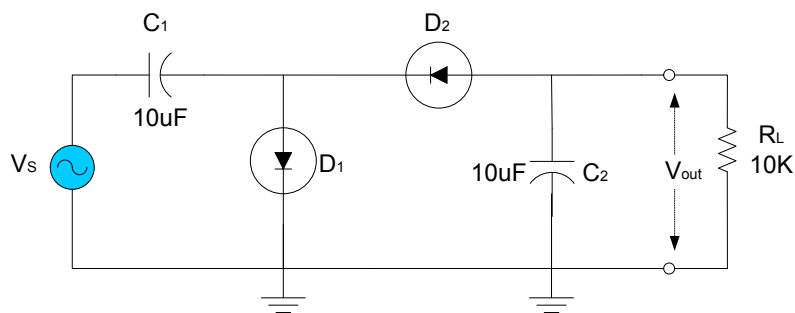

Figure 5
use output of the clamped capacitor as an input to the present circuit as shown in Figure 5,. Measure and explain the output. What would you call this circuit?
2. Voltage Doubler (see Figure 5): With the help of SPICE, run a transient simulation, and plot 10 complete cycles of the input signal, signal across each of the diodes, across each of the capacitors and output of the circuit. Observe output without load and load of $100K\Omega$.